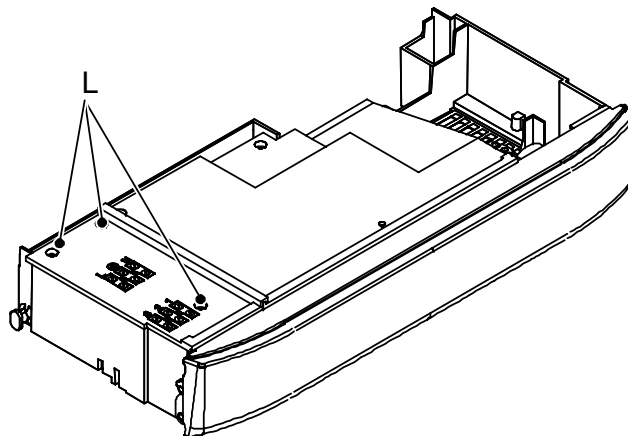

Fig. 6.13
- 5 Loosen the screws L and remove the service panel (Fig. 6.13).